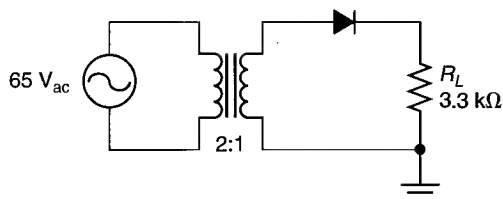

FIGURE 3.52
1. Determine the ac secondary voltage for the circuit shown in Figure 3.52.
3. Determine the peak secondary voltage for the circuit shown in Figure 3.52.
7. Determine the peak load voltage for the circuit shown in Figure 3.52.
11. Determine the average (dc) load voltage for the circuit shown in Figure 3.52.
14. Assume that the diode in Figure 3.52 is reversed. Determine the new values of $V_{L(pk)}$, V_{ave} , and I_{ave} for the circuit.